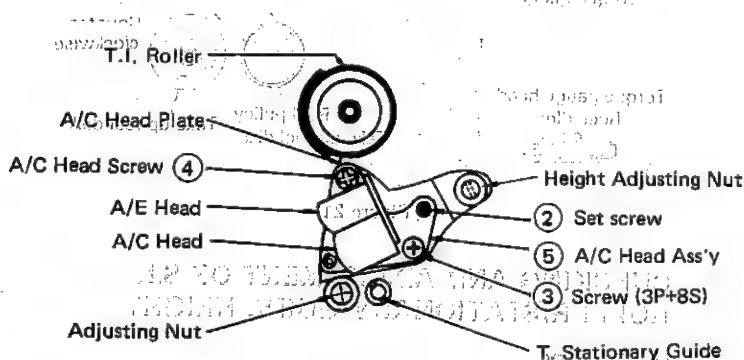

Figure 24.
- 1) Carry out the following adjustments with reference to figures 24 and 26 if an abnormality can be seen in the travel mode.
4. If adjustment is needed, adjust by means of the set-screw (2 in figure 24)). Turn the screw (2) slightly. N.B. Do not move the T. Stationary guide.
7. Turn the tracking knob to its preset position and turn the adjusting nut (in Fig. 24) so that the envelope is at a maximum before performing adjustment of the AC head.